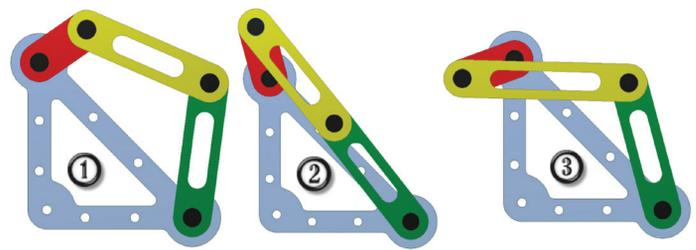

Figure 10
Open degrees of freedom will allow users to check desired motion in designs before locking them down. In Figure 10, the yellow linkage piece is too short to allow the red link to go a full 360 degrees (1 and 2). But activating the part in the assembly and changing the length of the yellow link to allow for full rotation can be done without ever leaving the assembly (3).